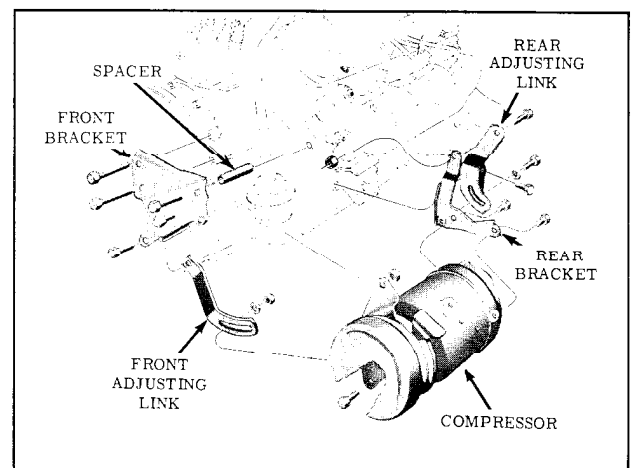

Fig. 14-41 Compressor Mounting Brackets
8. Remove the rear compressor-to-support bolts. Remove the front compressor belt adjuster bolt and the front pivot bolt. Remove compressor from car. (Fig. 14-41)